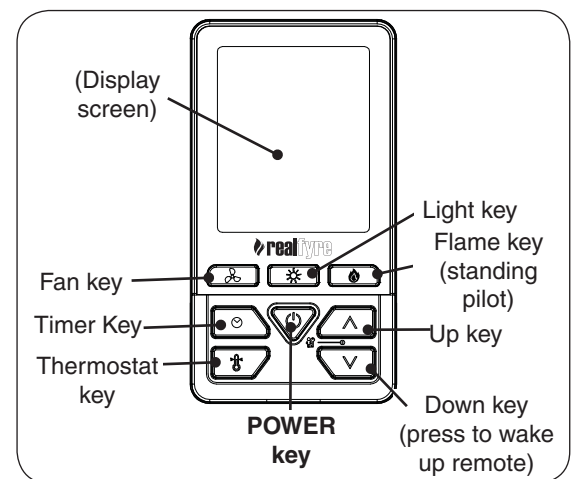

Fig. 39-3 Remote transmitter detail
2. Locate the remote transmitter and press the UP or DOWN key to wake up the remote. Then press the **POWER** key (see Fig. 39-3). The screen will display data, the system will beep, and the ignition sequence will begin.